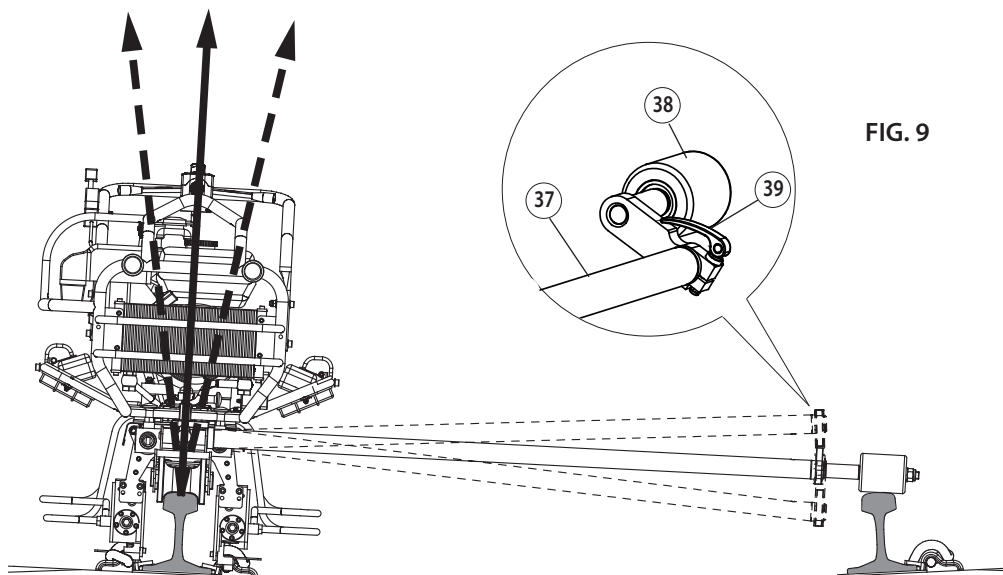

FIG. 9
4.4.3) Adjusting the vertical alignment of the machine (Ref. to Fig. 9)